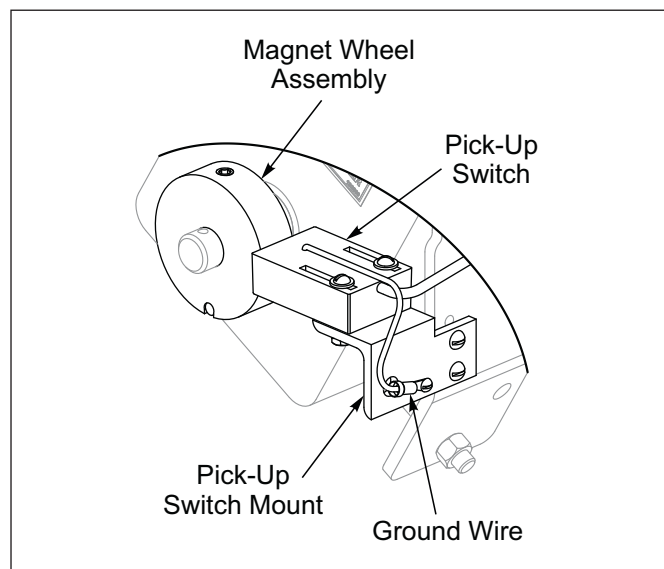

Figure 2-25: Pick-Up Switch Ground Wire
7. Attach the Pick-Up Switch Ground Wire to the small hole in the Pick-Up Switch Mount with a #6-32 x 1/2 Screw, removing paint under the wire connector to assure a good electrical ground connection. **See Figure 2-25.**